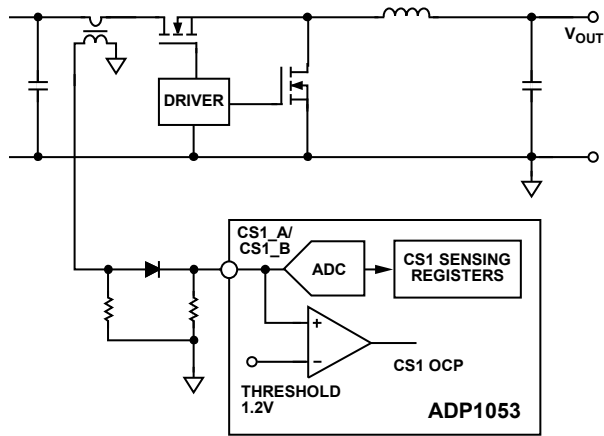
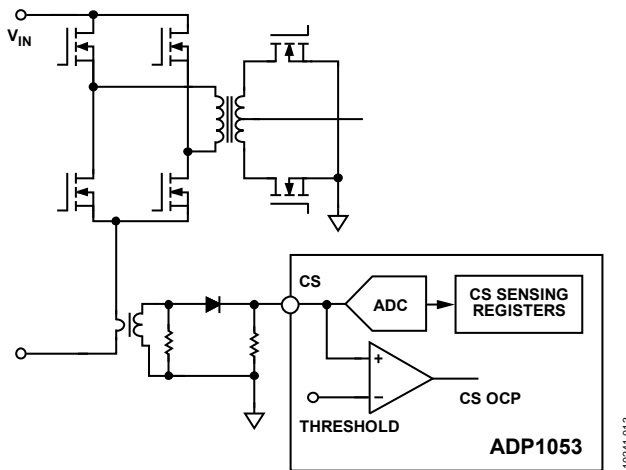

Figure 13. Current Sense 1 (CS1) Operation
Figure 14. Current Sense (CS) Operation
CS1_A and CS1_B are typically used for the monitoring and protection of Channel A and Channel B, respectively, whereas CS is used for the unregulated Channel C. Generally, the current inputs are sensed through a current transformer (CT). The input signals at the pins are fed into ADCs for current monitoring. The valid input range of these ADCs is from 0 V to 1.4 V. The input signal is also fed into a comparator for fast overcurrent protection (fast OCP). Typical configurations for current sensing are shown in Figure 13 and Figure 14.